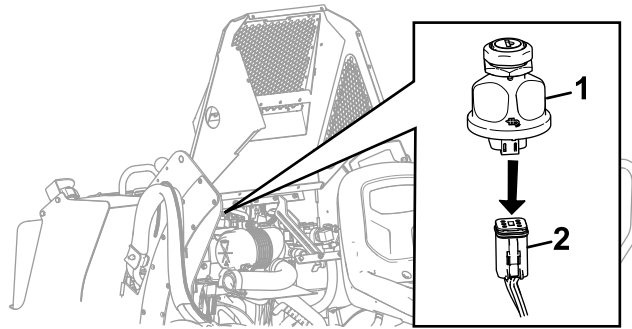

Figure 9
A. Under the control panel, remove the traction unit harness connector from the ignition switch (Figure 9).